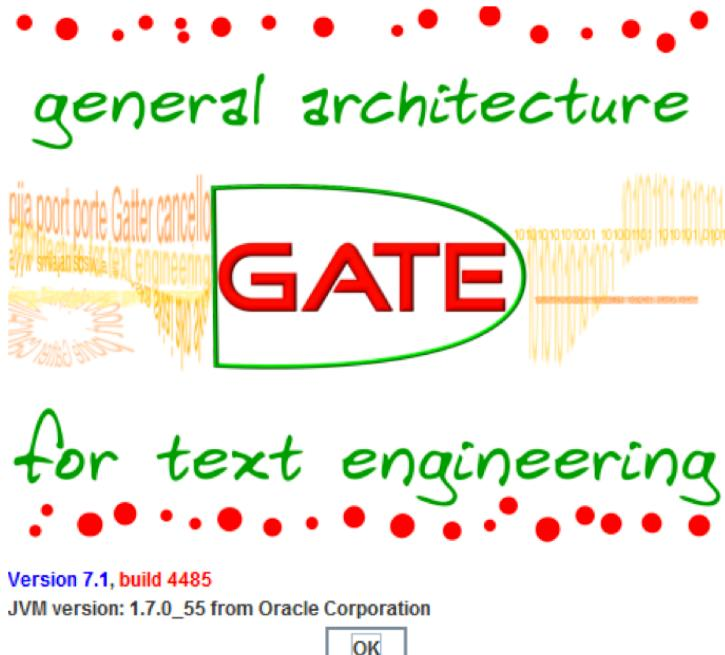

Figure 4: Required GATE Version
- GATE Framework 7.1 release for processing use case specifications. Please verify GATE Framework version in your computer (see Figure 4).